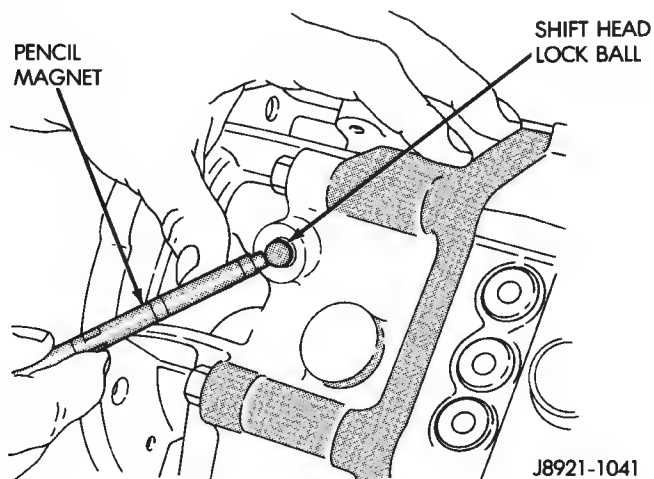

Fig. 11 Removing/Installing Shift Head Lock Ball
(12) Remove shift head lock ball with pencil magnet (Fig. 11).